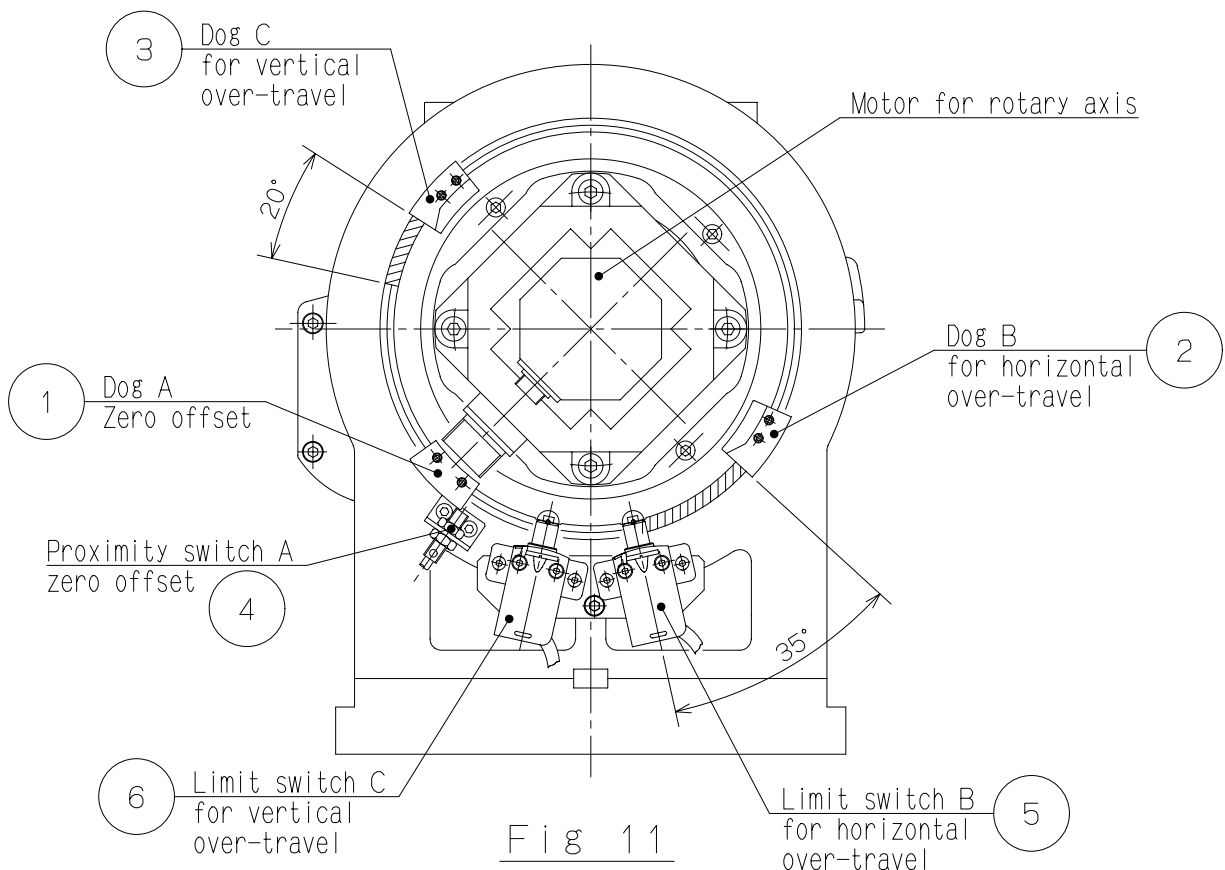

Fig 11
6-3-2 Tilting axis ZRN device (Fig.11)
6-4 The equipment for stopping the over-travel (Fig.11)
- 2) The dog B ② of Fig.11 located on the stroke limit on the horizontal table face position is detected with the limit switch B ⑤.
- 3) The dog C ③ located on the stroke limit on the vertical table face position is detected with the limit switch C ⑥.